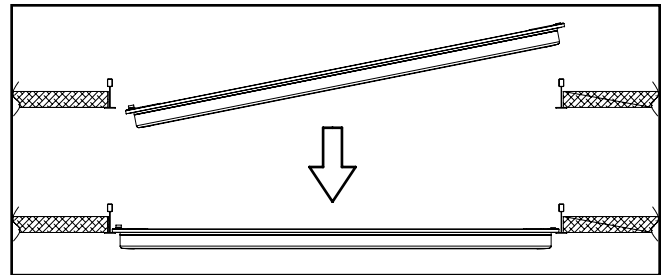

Figure 5.
6. Place light fixture into the selected t-grid space. See Figure 5.